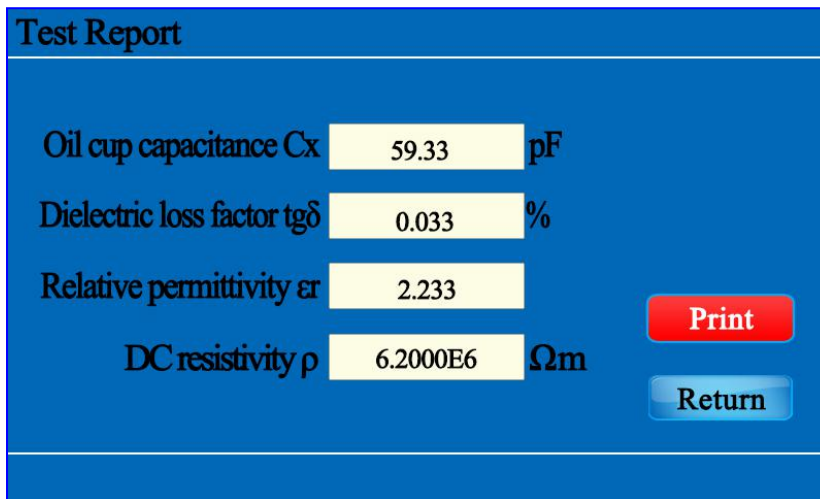

Fig.10
③Test Results----After the test is over, the test results are displayed in the screen shown in Figure 10.If the automatic print item is selected earlier, the printer automatically prints the test result.If there is no automatic print item selected, tap the [Print] button and the printer will print the displayed test result.Tap the [Return] button to return to the main menu.